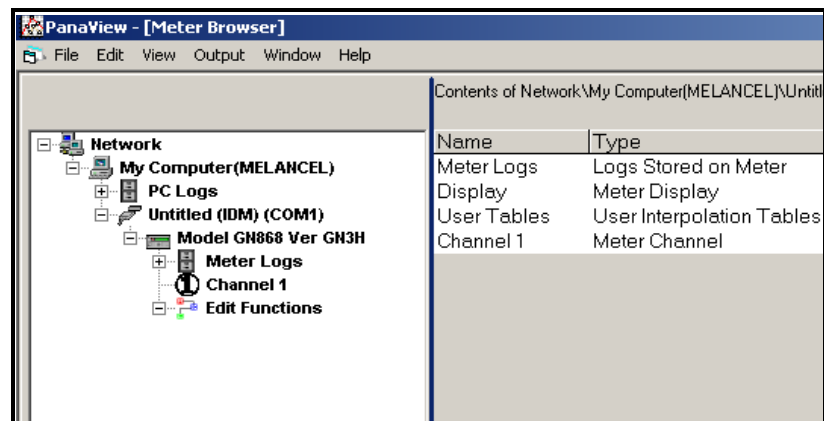

Figure F-18: *New Meter Browser* with Meter Branch
3. Then expand the meter tree as shown in Figure F-18 below.